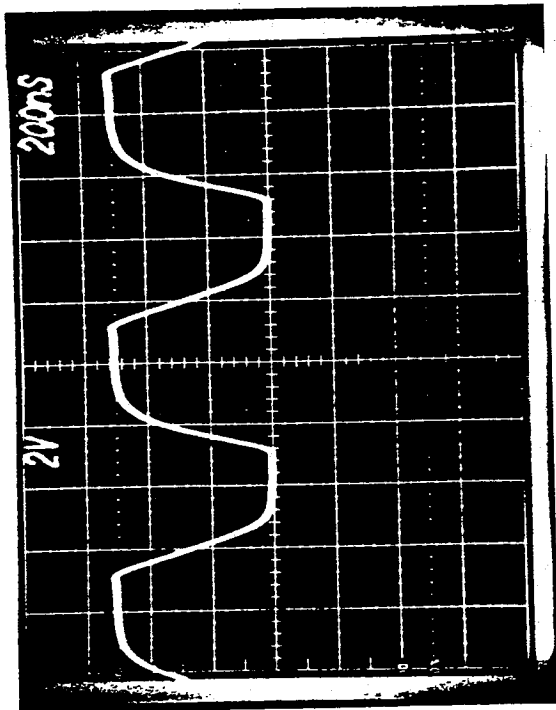

Figure 5-2
4. Check "1228800"; it should be approximately as shown in Figure 5-2.